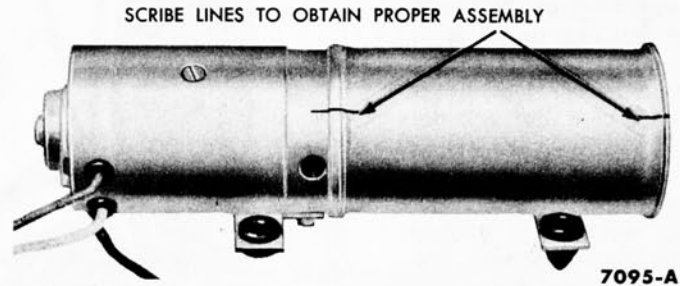

FIG. 1—Reservoir Marked Before Disassembly
2. Scribe lines on the reservoir, pump body, and reservoir cover so that these parts can be assembled properly (Fig. 1).